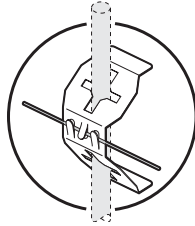

Figure 3-8. Place Stringline in Clip
- After the stringline has been pulled tight, place it into the “fingers” of each Sonic Grade Clip (Figure 3-8).